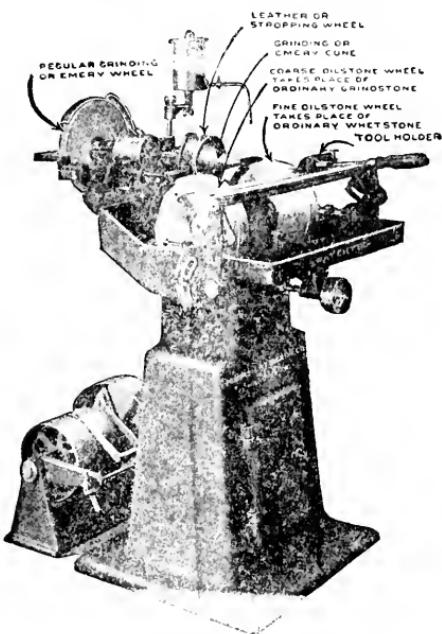

Fig. 53 - COMBINATION GRINDER.
55. General--Until within the last few years, most of the grinding in wood working shops was done on grindstones, where a sandstone wheel was used as the cutting agent. This was a much slower process then the present oilstone grinder. It is still insisted by some that the grindstone gives better results. However, it is a fact that all progressive shops and factories are adopting the oil stone grinders for sharpening edge tools. The grinder in Fig. 53 is one of the several efficient types of this kind of machine now on the market.
56. Drive and Speed-- The machine may be driven from a line shaft as provided for in Fig. 53, but is usually equipped with an individual motor, one horse power being all that is required for this machine. The upper arbor should run at a speed of 1650 r. p. m., the oilstone wheels at 230 r. p. m.
58. Tool Rest-- The tool rest table has a groove running parallel to the face of the stone. The tool holder with the tool is shown in Fig. 53, and operates back and forth in this groove.